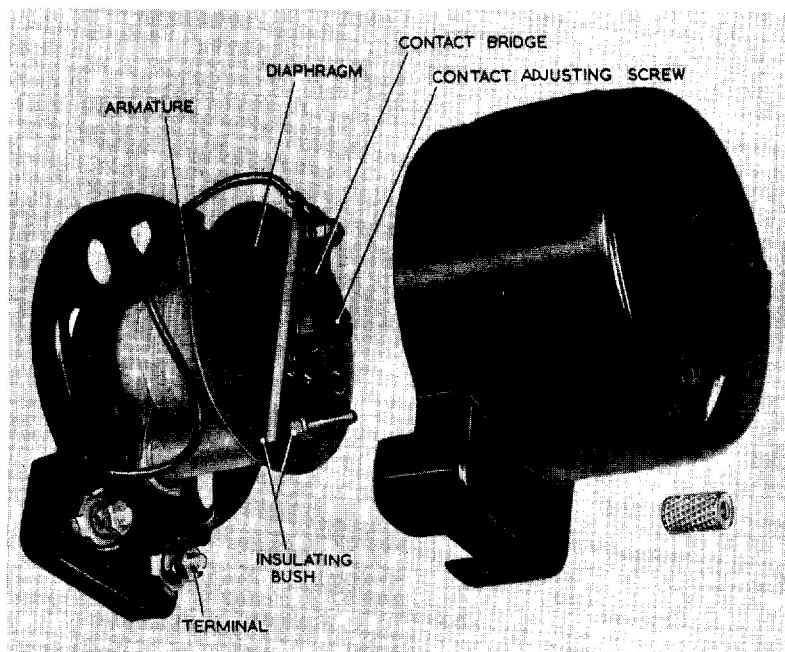
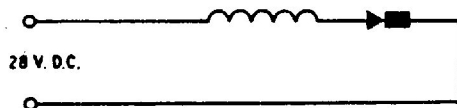

Fig. 1. Buzzer, Type OB, with cover removed
Fig. 2. Circuit diagram
1. The Klaxon, Type OB buzzer is used as an audible signal in aircraft warning systems and is of the vibrating-diaphragm type which is driven by a self-interrupted solenoid. The buzzer is shown in fig. 1 with the cover removed, and a circuit diagram is given in fig. 2.